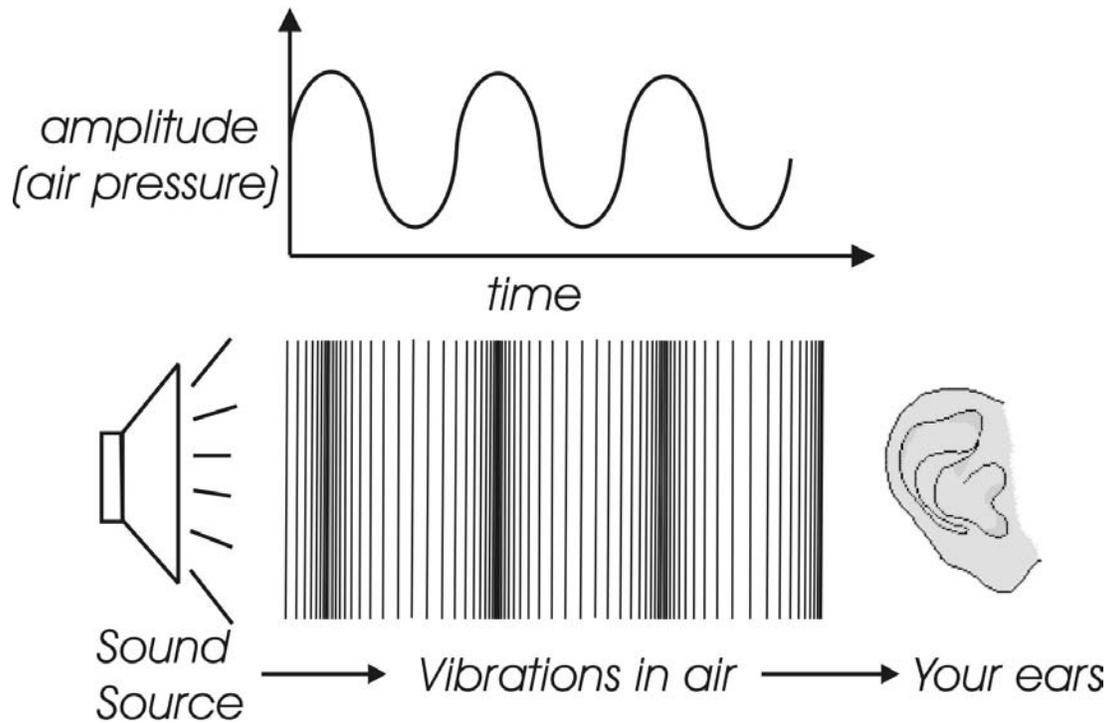

figure 2
**Sound** – audible vibrations of air pressure. Electronic sounds are delivered to the air through loudspeakers. (figure 2)